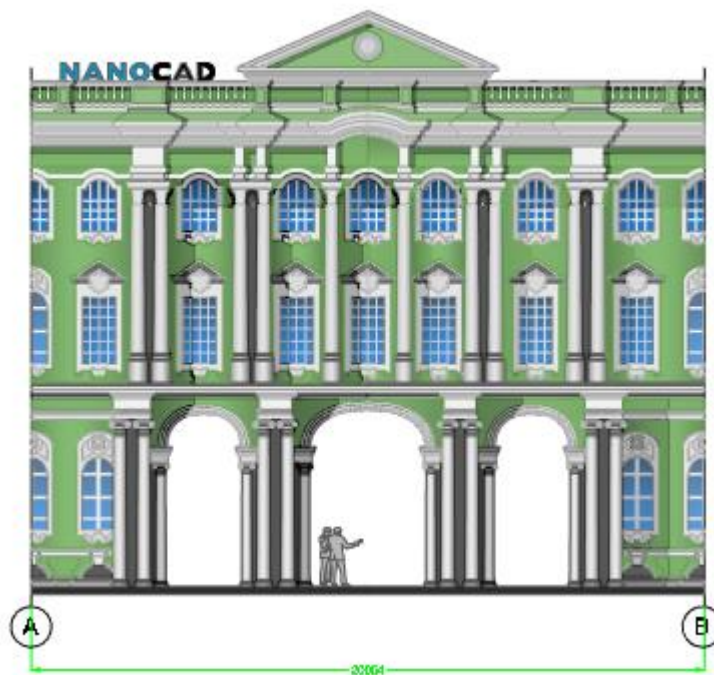

Fig. 32. Dimension
2. Add a dimension between axes. To do this, choose the Annotate ribbon tab – Dimension – Aligned, then enter dimension between two axes on the drawing (fig. 32):